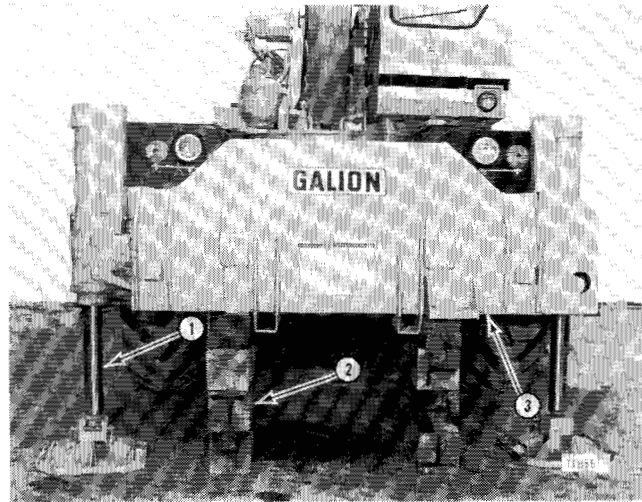

Figure 22
1. Fully extend outrigger jack cylinder (1, Figure 22) and position 30 In. (762.00 mm) of blocking (2) under outrigger box (3) as shown. Lower crane, till outrigger box is resting on blocking. Leave sufficient room in front of and behind crane to stop in case it should accidentally be knocked off blocking.